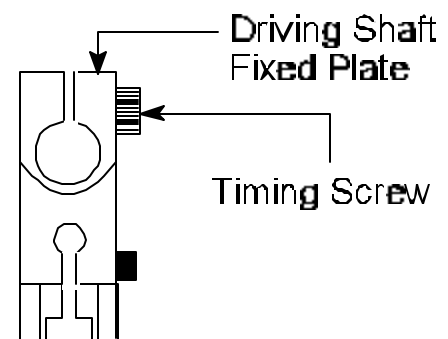

Figure 22
37. Once Take-up Lever is in center of Take-up Lever Driving Roller, using 3 mm Allen Wrench, **tighten** timing screw. See *Figure 22*.